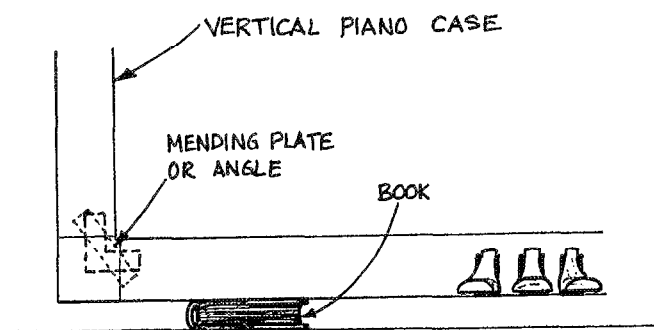

FIGURE 4
2. "I carry a few assorted hardware angles and mending plates with me at all times and find that all sorts of case problems are fixable quickly for which I can charge a nice repair fee. Another example is a loose pedal rail which goes up and down with the pedals, and no sustaining action at all. While you hold one end up off the floor, have the customer slip a book under the bottom board so it is pushed up into position by the weight of the piano. Quickly install a mending plate as shown (see Figure 4) and then remove the book and adjust the pedals as necessary." —**Kenneth W. Mayhercy, Steamboat Springs, Colorado**